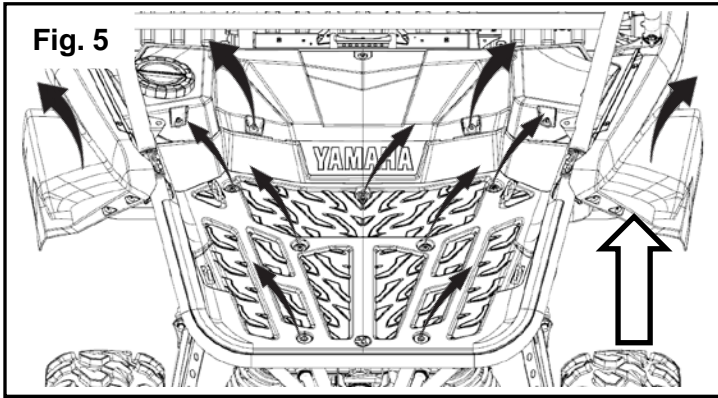

Fig. 5
- Remove the Airbox Cover, the rest of the stock bolts from Cargo Bed, and the left and right Rear Fenders. See Fig. 5.